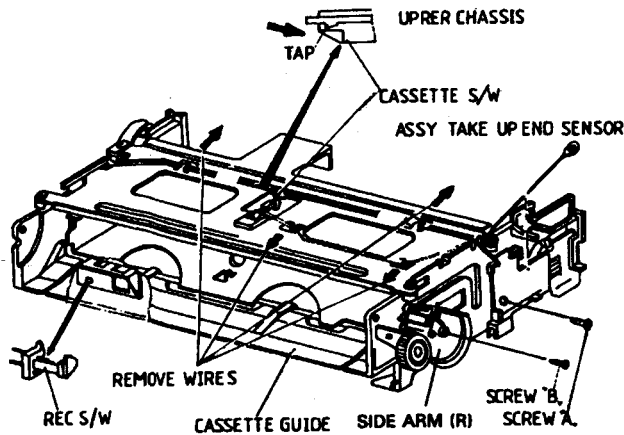

Fig.15
- 1). Release the tap of the cassette S/W and remove. (Fig 15)
- 2). Remove the screw of the start sensor PCB removal. (Fig.15)
- 3). Remove the wires. (Fig.15)